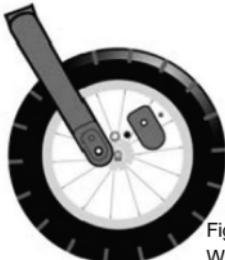

Figure 1
1. Wheel assembly nuts and screws. (Figure 1)